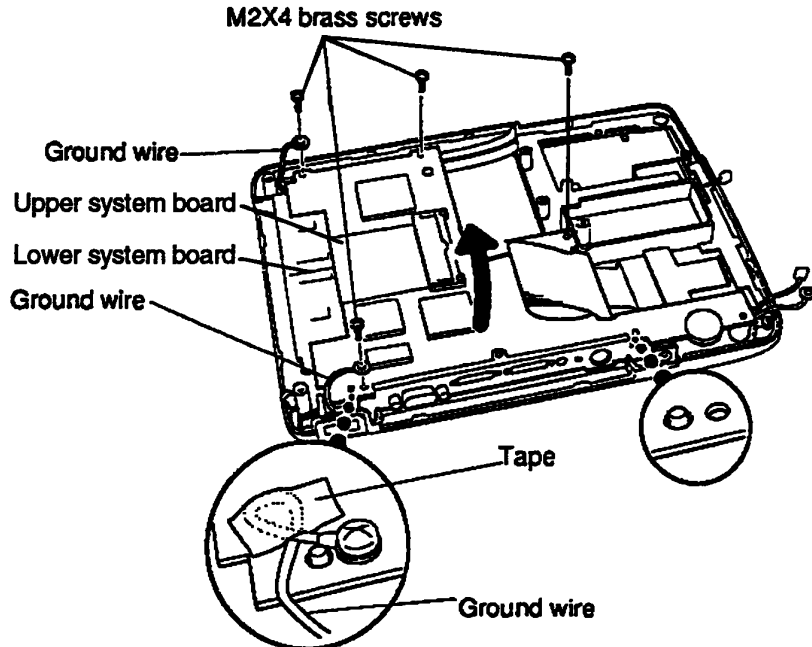

Figure 4-21 Folding Out the Upper System Board
To remove the T100X's system board, follow the steps below and refer to Figures 4-21 and 4-22.
3. *Carefully* remove the **tape** securing the **ground wire**; otherwise, damage may occur to the wire (Figure 4-21).
4. Remove the **four M2x4 brass screws** securing the **upper system board** (FOGRD*) to the **lower system board** (FOGRU*) (Figure 4-21).
5. Fold out the **upper system board** from left to right (Figure 4-21).
To install the system board, follow the steps below and refer to Figures 4-21 and 4-22.
5. Secure the **upper system board** and ground wires with **four M2x4 brass screws** (Figure 4-21).
6. Secure the **ground wire** next to the I/O panel with **tape** (Figure 4-21).